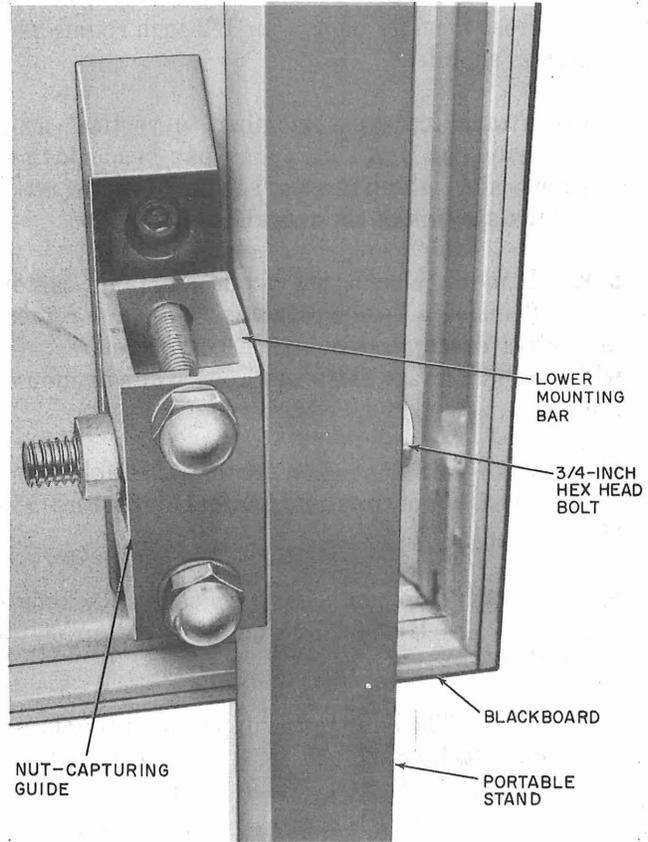

Fig. 27—Bottom Blackboard Mounting Detail
5.08 Secure the bottom of the blackboard to the stand with two 2-3/4 inch hexagon-head bolts through holes in the stand (Fig. 27). The lower mounting bars have guides for capturing nuts. Tighten lower nuts until fingertight, then turn 1/2 turn with a suitable wrench.